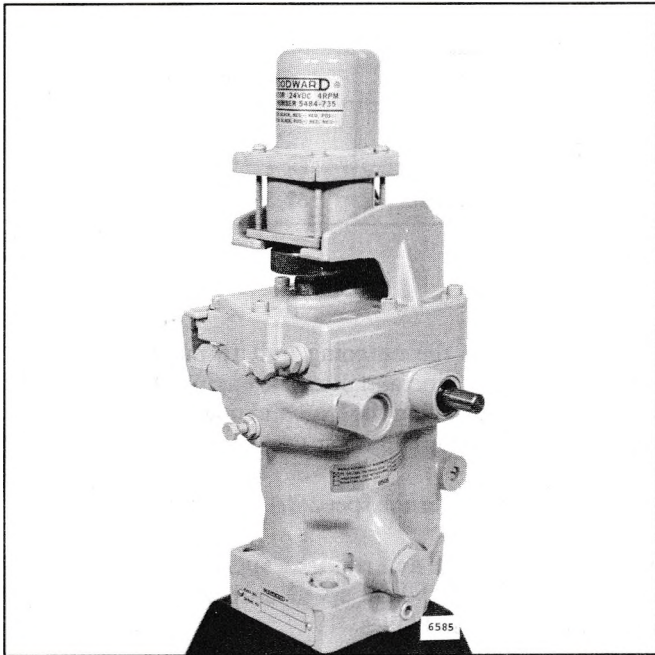

Fig. 10 - Typical Synchronizing Motor Mounting
2. Turn the maximum speed adjusting screw in until the screw contacts the throttle linkage internally, limiting the maximum speed of the engine at 8% above the rated full-load speed (Fig. 10).
Some hydraulic governors are equipped with a reversible electric synchronizing motor mounted on the governor cover (Fig. 10).